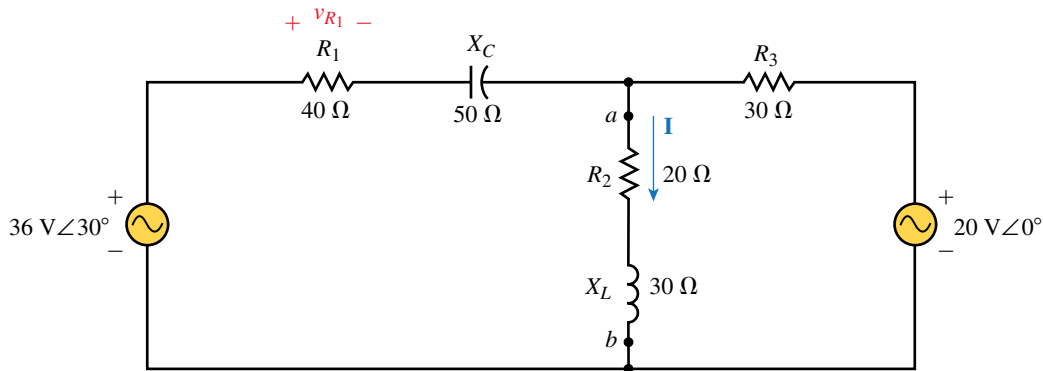

FIGURE 20–72
7. Use superposition to determine the current \mathbf{I} in the circuit of Figure 20–72.
8. Repeat Problem 7 for the circuit of Figure 20–73.